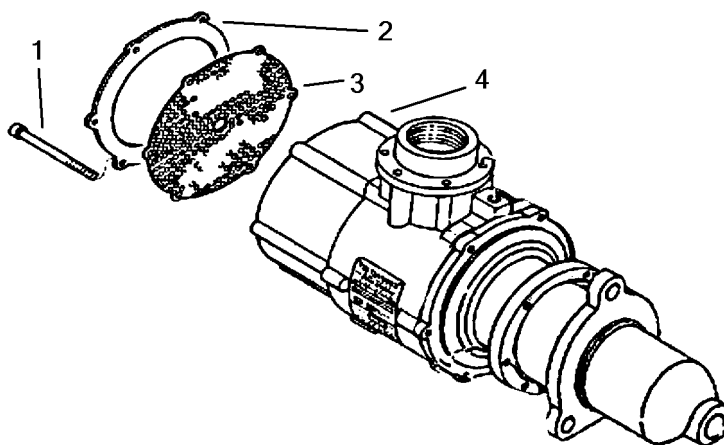

FIGURE 3-35H. Assembly of Exhaust Screen.
- hh. Install exhaust screen (3, FIGURE 3-35H) and screen support ring (2) with screws (1) onto starter (4) and torque to 80 in-lb.